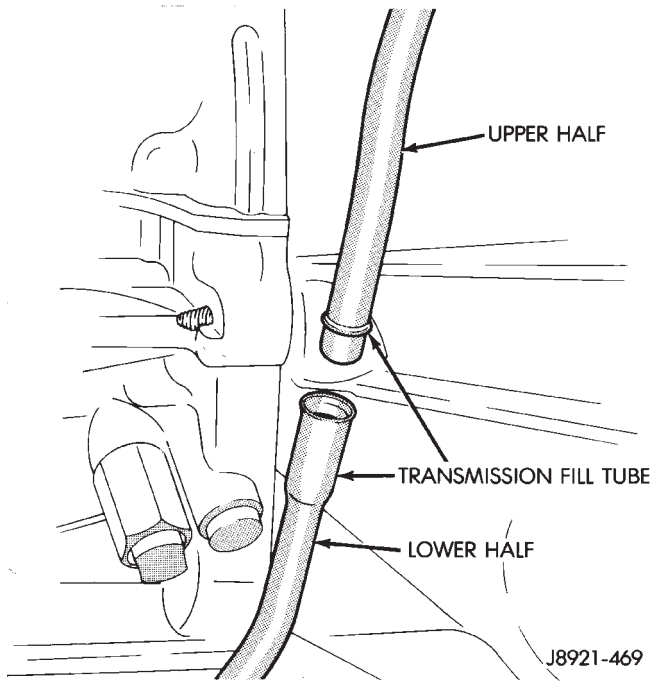

Fig. 1 Transmission Fill Tube (Two-Piece)
- (1) Raise vehicle.
- (2) Drain transmission fluid and reinstall oil pan drain plug.
- (3) On models with 2-piece fill tube, remove upper half of tube (Fig. 1).